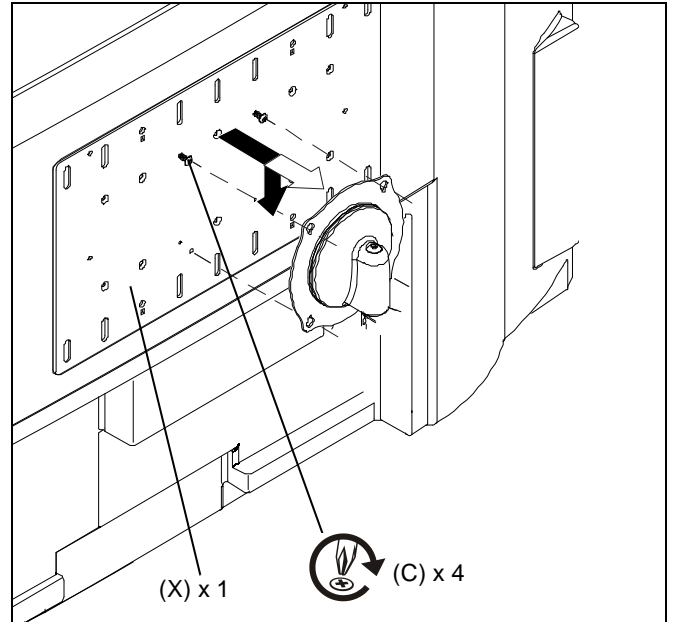

Figure 10
1. Start two Phillips pan head screws (C) into top mounting holes on interface bracket (X). (See Figure 10)
2. Align two screws in interface bracket (X) with upper mounting holes in Centris cup and lower display until screws are seated in lower area of teardrop mounting holes. (See Figure 10)